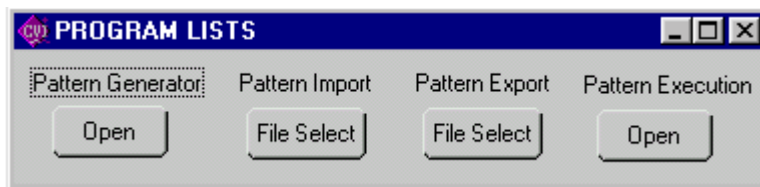

FIGURE 11. PROGRAM LISTS WINDOW
2.2.10 Running or generating a program (pattern) is accomplished by clicking the **Program** button on the Main Panel, opening the Program Lists window (Figure 11). Programs can either be defined point-by-point using the **Pattern Generator Open** button, or by using the **Pattern Import File Select** button to import a file containing the program parameters.
2.2.10.2 Patterns can be imported in comma-delimited text format using the **Pattern Import File Select** button (Figure 11). The format, showing a single data point, is illustrated in Figure 12 and defined as follows: